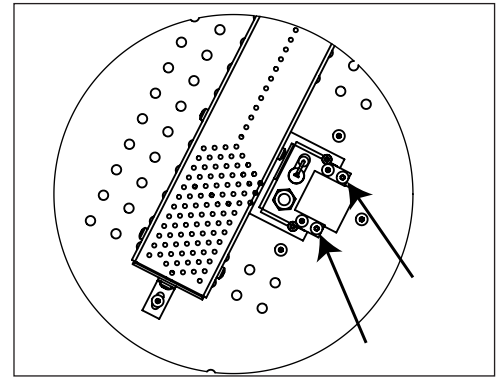

Figure 11: Pilot Mount Removal
- b. Remove the two (2) T-20 screws securing the pilot plate to media tray (See Figure 11).